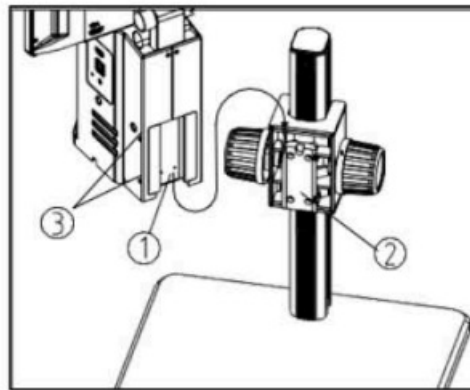

Fig.1
- Match the dovetail interface (1) of the microscope body with the dovetail groove (2) of the focus bracket group, and insert it from top to bottom as the direction shown in the figure, fix the screw in the screw groove
- Tighten the screw on the body group (3) with a M4 inner hexagon spanner (side length 2mm). (See Fig.1)